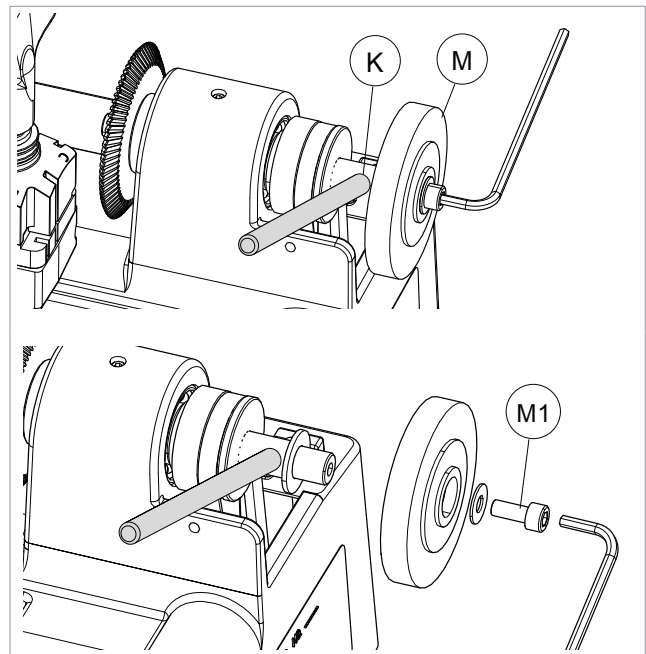

Fig. 34
- 2) Slot the locking rod (provided) into the hole (K) of the cutting tool shaft (Fig. 34).
- 3) Use the Allen wrench to loosen the screw (M1) holding the brush (M) in place (Fig. 34).
- 6) Install the protective cover (L) and secure with the 3 screws (L1).